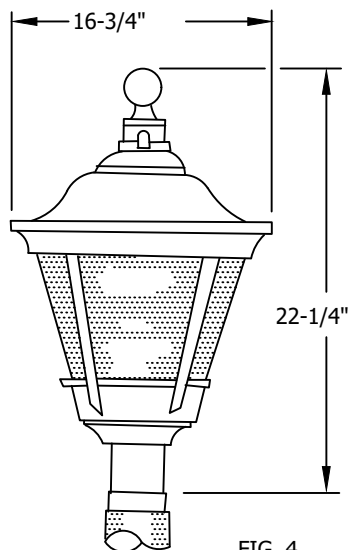

FIG. 4
- B. FIGURES 1, 2, 3, 5 ARE EQUIPPED WITH ACRYLIC REFRACTORS. FIGURE 4 IS EQUIPPED WITH GLASS REFRACTORS.
- (C) THIS LUMINAIRE SHALL BE INSTALLED SO THAT THE LADDER ARM IS PARALLEL TO THE CURB.